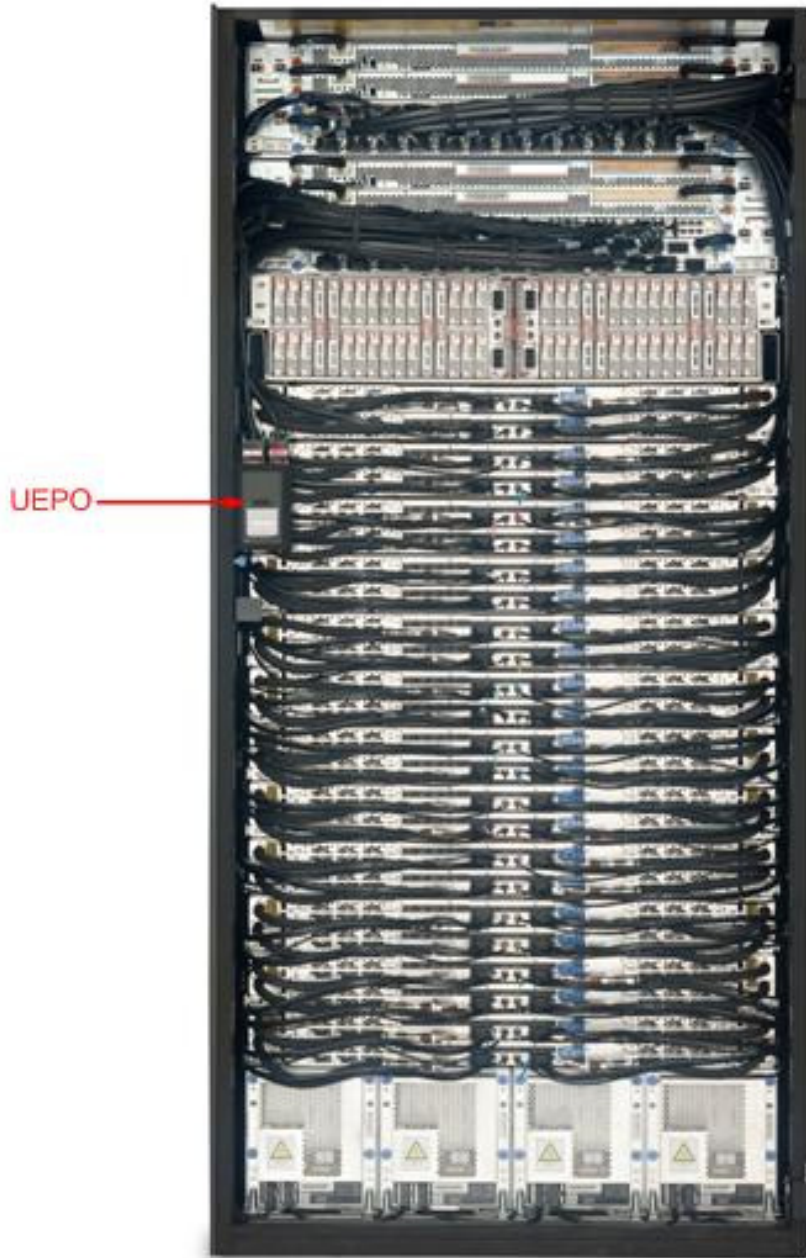
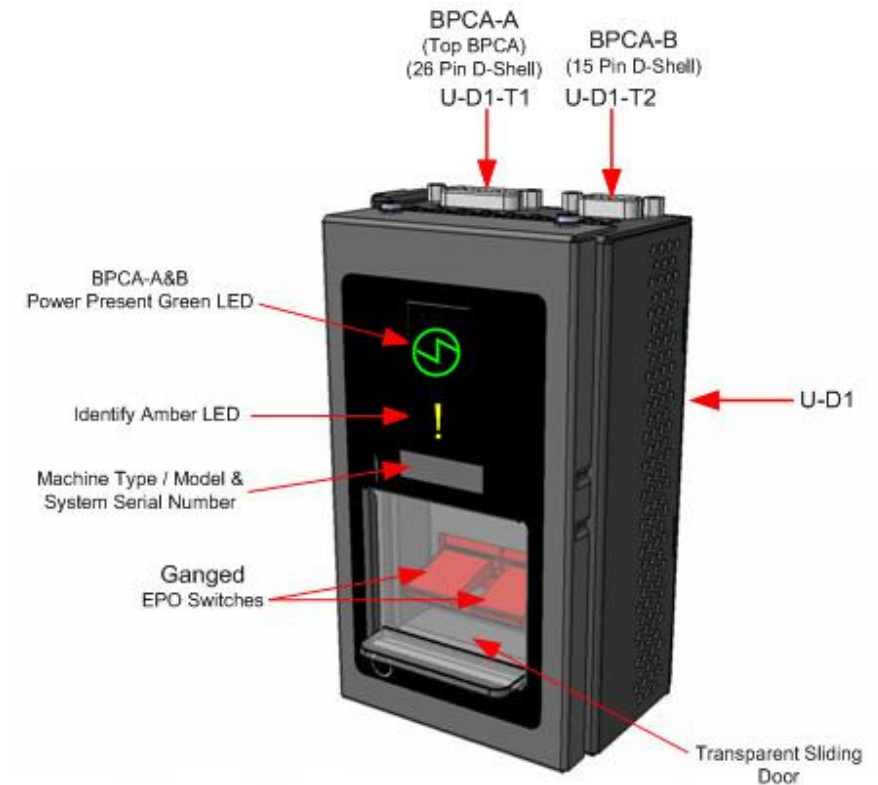

Figure 6 Frame Photo showing UEPO location
Figure 7 UEPO assembly showing frame Identify Amber LED
- STEP 6 Locate the frame. Confirm that it is the correct frame by checking that its UEPO Panel Identify LED is blinking. This LED is located on the UEPO panel and it is marked by the “!” symbol (see Figure 6 and Figure 7).